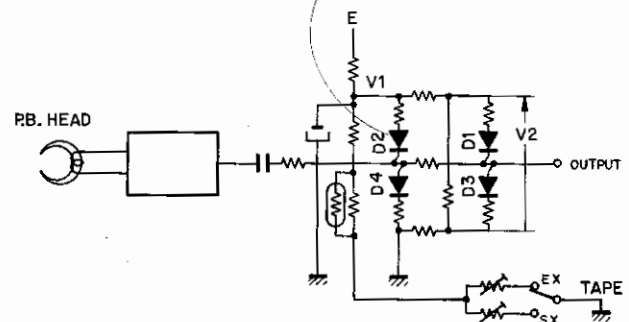

Fig. 2.2.2 I.M. Suppressor Circuit
I.M. Suppressor circuit is shown in Fig. 2.2.2.